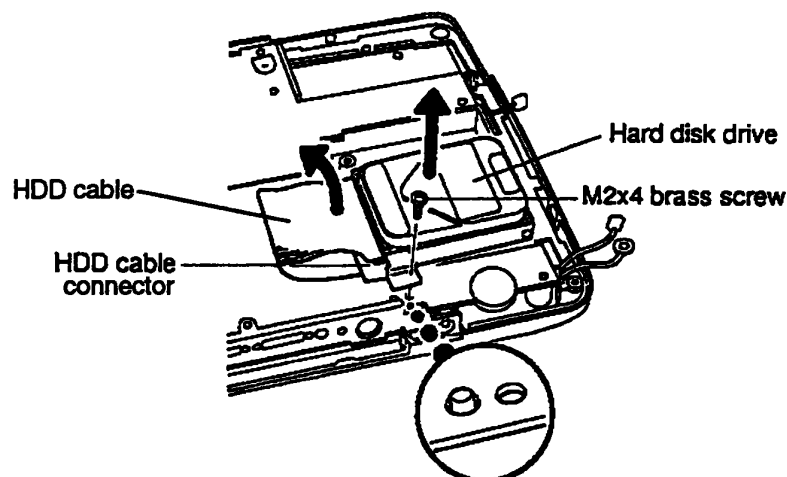

Figure 4-17 Disconnecting and Removing the Hard Disk Drive
To remove the T100X's hard disk drive, follow the steps below and refer to Figures 4-17 and 4-18.
3. Remove the one M2x4 brass screw securing the HDD, and lift out the hard disk drive (Figure 4-17).
4. Grasp the ends of the HDD cable connector and pull to disconnect the HDD cable from the HDD (Figure 4-17).
To install the T100X's hard disk drive, follow the steps below and refer to Figures 4-17 through 4-19.
2. Connect the HDD cable to the HDD (Figures 4-17 and 4-19).
3. Seat the **HDD** in the T100X and secure it with the one **M2x4 brass screw** (Figure 4-17).